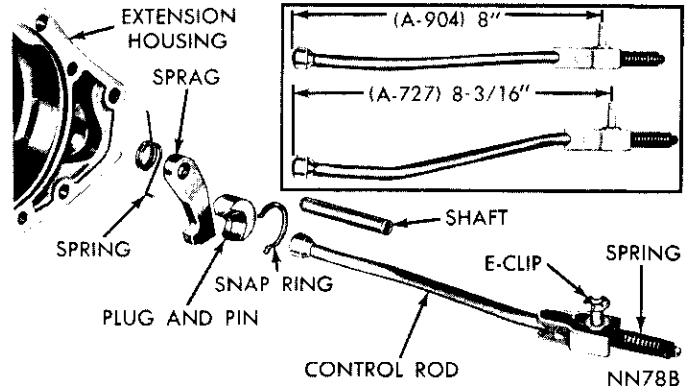

Fig. 23—Parking Lock Components
the parking sprag and spring (Fig. 23). Remove snap ring and slide the reaction plug and pin assembly out of the housing.
(1) Position sprag and spring in the housing and insert the shaft (Fig. 23). Make sure square lug on sprag is toward parking gear, and spring is positioned so it moves sprag away from the gear.
(2) Install reaction plug and pin assembly in the housing and secure with snap ring.
(3) Install extension housing.